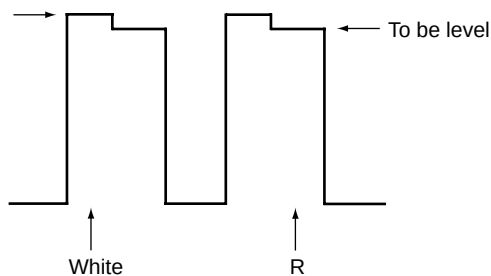

Fig. 3-5
- Adjust the COMPONENT R-Y so that the TP501 (R IN) level and the R level will be the same. (Fig. 3-5)